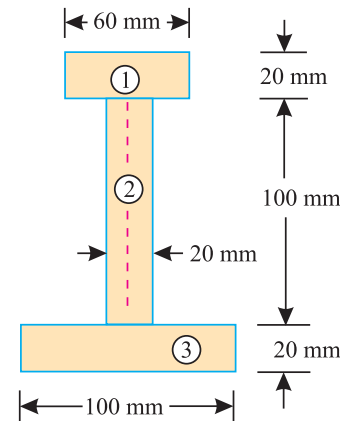

Fig. 7.15.
**Example 7.11.** An I-section is made up of three rectangles as shown in Fig. 7.15. Find the moment of inertia of the section about the horizontal axis passing through the centre of gravity of the section.
**Solution.** First of all, let us find out centre of gravity of the section. As the section is symmetrical about Y-Y axis, therefore its centre of gravity will lie on this axis. Split up the whole section into three rectangles 1, 2 and 3 as shown in Fig. 7.15, Let bottom face of the bottom flange be the axis of reference.